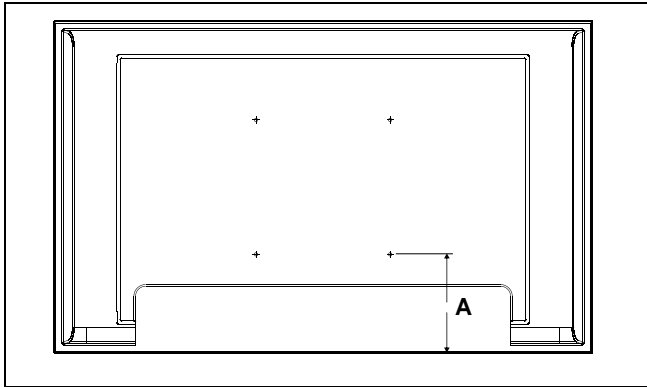

Figure 7
- Measure the distance from the approximate center of one of the lower mounting holes on display back to the lowest point on the display. (See Figure 7)